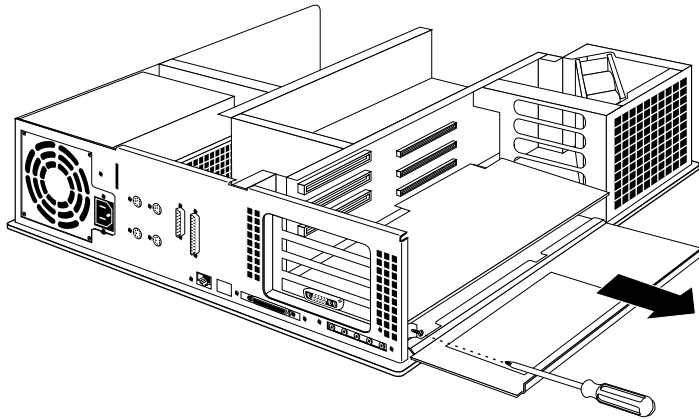

Figure 2-14 Removing the Screw From the Metal Extension
4. Remove the screw attaching the graphics board to the slot as shown in Figure 2-14.